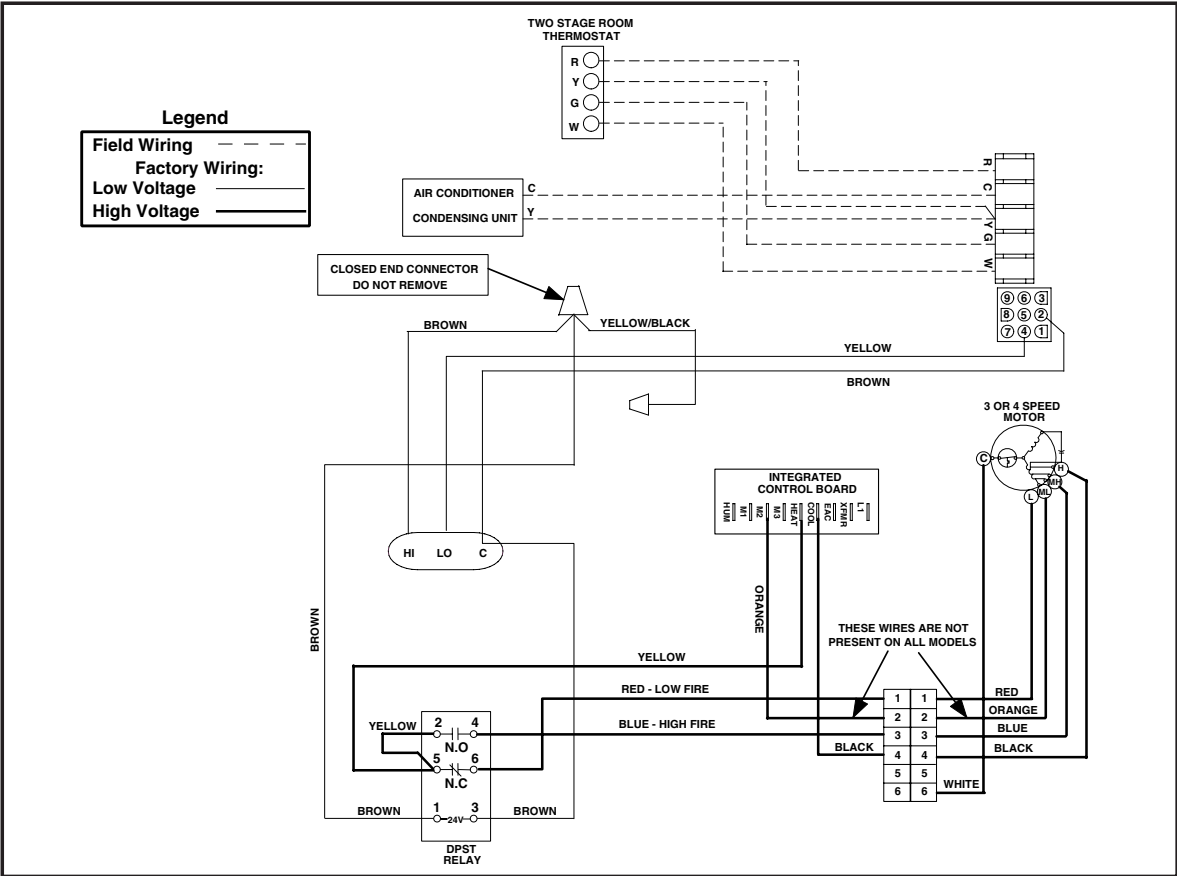

Figure 30. Low Fire Only Configuration
3. *Low fire only configuration* – For this installation, the high terminal is disconnected (See Figure 30). This defeats the staging feature and the furnace operates on low fire only. The furnace will run at reduced firing rate and the variable speed blower will operate at a lower speed.